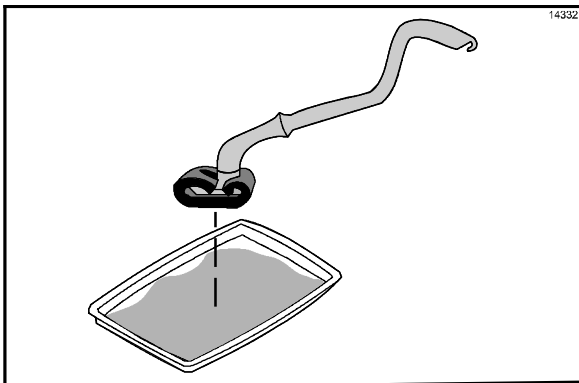

Figure 45
- Dip the Kay Grill Cleaning Pad Holder into the grill cleaner. (See Figure 45.)